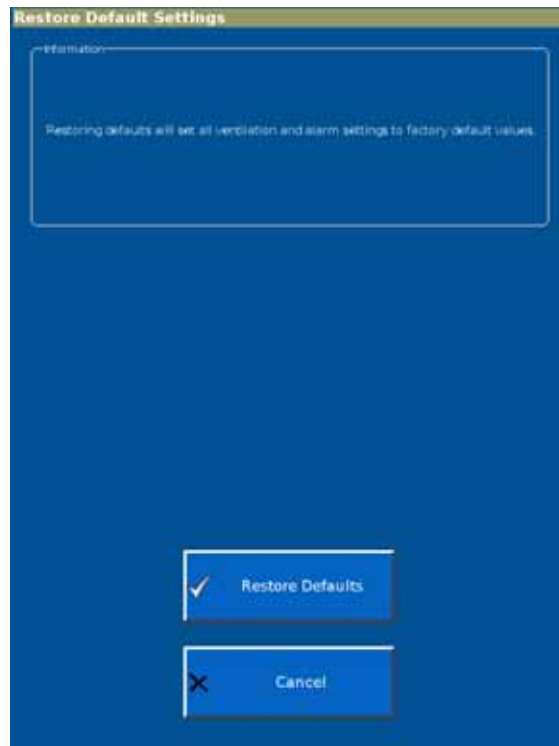

Figure F-7: Restore Default Settings screen
1. From the **System Settings** screen, select **Restore Default Settings** to display the **Restore Default Settings** screen (Figure F-7).